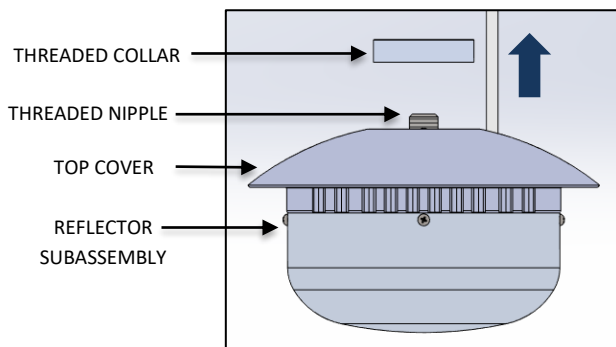

FIG. 33 THREADED COLLAR DISSASSEMBLY
24. Unscrew the THREADED COLLAR from THREADED NIPPLE and remove it from the REFLECTOR ASSEMBLY as shown below in FIG. 33.